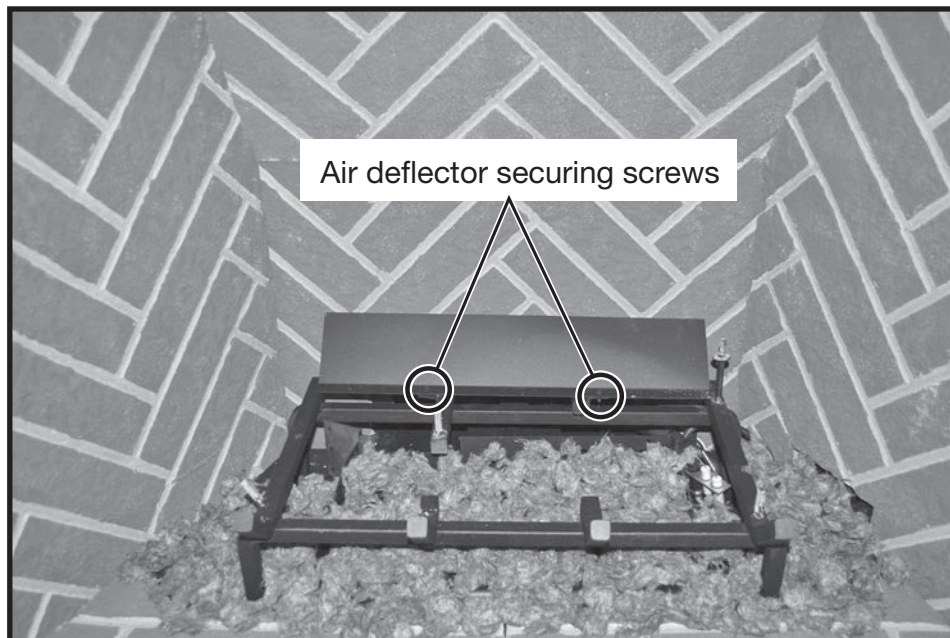

Figure 10: Rear air deflector.
9. Attach rear deflector to rear of grate using the two screws provided (Figure 10).